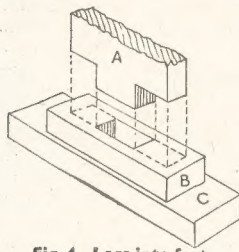
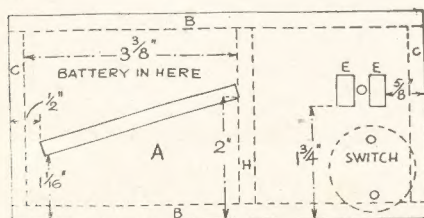
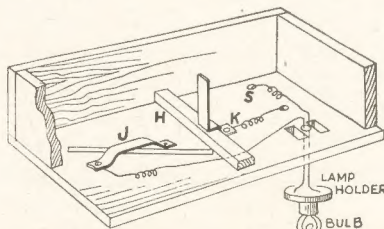

Fig. 4—Legs into feet
Fig. 2—Plan of the base board top
Fig. 3—Underview of box showing connections
The main frame support for the table consists of four pieces, two uprights and two horizontal rails, with the addition of four pieces coupled to form suitable feet. In Figs. 2 and 3 the uprights (A) are first made and these are 1ft. 8½ ins. long by 3 ins. wide by ¾ in. or 1 in. thick.
The length given allows for ½ in. depth of tenon to go into piece (B) of the feet, see detail Fig. 4. There must be two mortises cut in each piece (A), to take the ends of the horizontal rails. The measurement of 4½ ins. must be taken up from the bottom of the upright, as in Fig. 3, the space between this mortise and the upper one being 14 ins., as seen in Fig. 2.
A view of one of the feet is shown in Fig. 4, piece (C) being 5 ins. long by 1½ ins. by ½ in. section, and piece (B), 3½ ins. long by 1½ ins. wide by ½ in. thick. Mark off the mortises carefully in pieces (B) to fit the tenons of pieces (A). Then glue all firmly together.
This is again seen in the view Fig. 2 and in the plan Fig. 6. Glue the rails (D) in place in the uprights, making sure to get a close fit and, therefore, a rigid frame. At the opposite end to that containing the recesses, cut and glue in two small bracket pieces, as shown in Fig. 2. These are to strengthen the joint here and to help make a strong fixing for the pivoting screws which run up through both thicknesses of wood, see dotted lines for both rails (D).
Figs. 2 and 3—Front and end elevation showing parts and dimensions
The finished table top is hinged to the uprights with hinges measuring about 2ins. by 5/8in. wide. It would be best, and would make a neat job if the hinge flaps are recessed into the tops of the uprights, as in Fig. 3. Note the correct position of the table top in relation to the uprights, as in Fig. 6. The distance of 4 1/4ins. is carefully measured and squared across so the frame hangs square when folded down. Test this out before finally fixing the hinges in place.
First make a shallow oblong box $6\frac{1}{2}$ ins. long by $3\frac{1}{2}$ ins. wide and $1\frac{1}{2}$ ins. deep. The top of the box, piece (A), should measure $6\frac{1}{2}$ ins. by $3\frac{1}{2}$ ins. In it are cut the two slots or mortises, marked (E,E) in Fig. 2. Set out the two measurements shown, to get the proper position of the slots which each measure $\frac{1}{2}$ in. by $\frac{1}{4}$ in. and are spaced $\frac{1}{4}$ in. apart. Cut these carefully with the fretsaw. The tenons which go into them must fit stiffly and accurately. Between the slots, next cut a hole large enough for the two wires of the flex to pass through to the lamp at the top of the tree.
The sides (B), measure $6\frac{1}{2}$ ins. by $1\frac{1}{2}$ ins., and are glued on to the top (A), flush with the edge, as shown in Fig. 3. This gives an underside view of the construction of the box and its interior fittings.
To get the proper placing of the giraffe, the slot in the top of the box is indicated and figured in Fig. 2. If the slot is not to be made, then the position will be just pencilled on.
It will be understood that a double-cell battery is to lie at one end of the box, as indicated in Fig. 2. A cross rail (H) bearing a brass strip will be fitted here to connect with the contact strip at the end of the battery, all as seen in Fig. 3. Then to form the second connection between battery and lamp, a raised loop of brass is screwed to the top of the box to contact that between the two cells of the battery.
Before, however, this can be done, a switch must be fixed to the top of the box in the position shown in the sketch, Fig. 1. That is, just near the foot of the tree, and at (S) in Fig. 3. Here two holes are bored for the passage of the connecting wires.